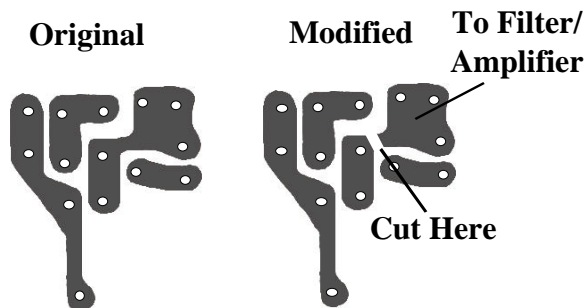

Figure 32.
*Close up view of the filter/amplifier connection to the 10-Meter transmit mixer in the HTX-100 and the HR-2600. The foil patterns and physical placement is the same for both radios (also see figure 32).*